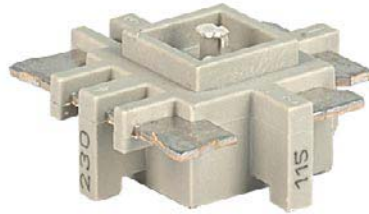

Figure 6. Voltage selector unit
3. Remove the fuse holder (1) from the power input connector.
4. Using long-nose pliers, remove the voltage selector unit (see Figure 6 on page 38).